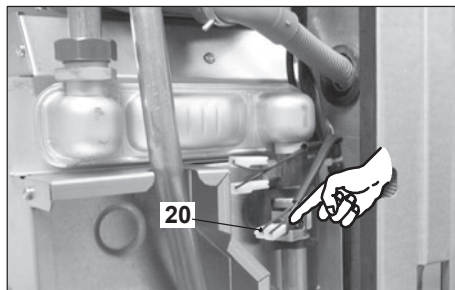

Fig. 8.3
- Disconnect the electrical connectors of the C.h. temperature probe NTC 20 in Fig. 8.3
- Connect the electrical connectors of the C.h. temperature probe NTC 20 in Fig. 8.3.